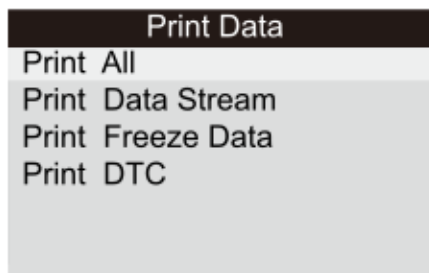

Figure 5.2
4) Use the UP/DOWN scroll button to select **Print Data** from **Main Menu** in the scan tool, and press the OK button. (Figure 5.2)